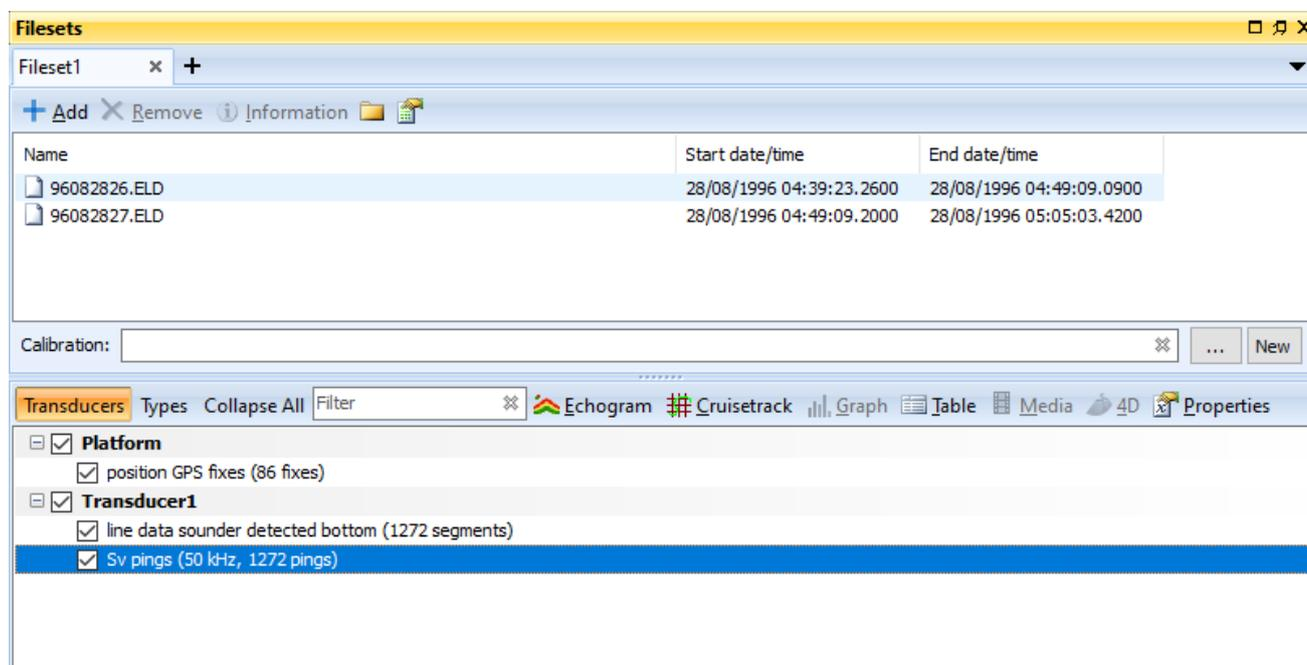

Figure 11. The Filesets window.
Fileset	A collection of data file(s) and the variable(s) derived from those data file(s). These are grouped together in the Filesets window (see Figure 11).
4. On the toolbar click on the **View** menu and select **Filesets** to display the Filesets window (Figure 11), or press F10.
The fileset for the EV file in Figure 11 contains two data files and three raw variables (Sv pings, position GPS fixes and a line data sounder-detected bottom).